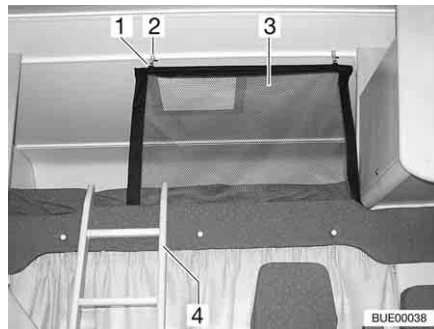
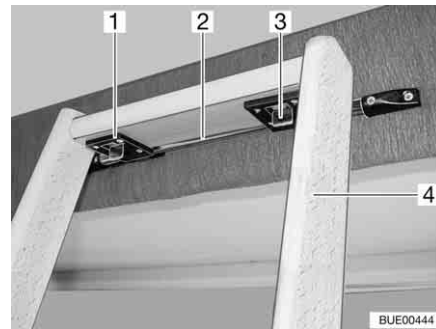

Fig. 94 Overcab bed
Fig. 95 Access ladder, catch
**Access ladder** Always use the access ladder (Fig. 94,4 and Fig. 95,4) provided as standard to access the overcab bed.
- Hang the ladder with the two hooks (Fig. 95,1) on the rail (Fig. 95,2) of the alcove flap.
- Push the two catches (Fig. 95,3) forward.
**Safety net** The safety net (Fig. 94,3) is stored as standard between the mattress and slatted frame. Only use the safety net if persons are already in the alcove.
- Attach the holder (Fig. 94,1) to the eyes on the ceiling (Fig. 94,2).